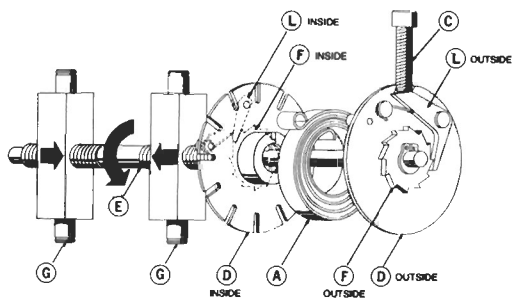
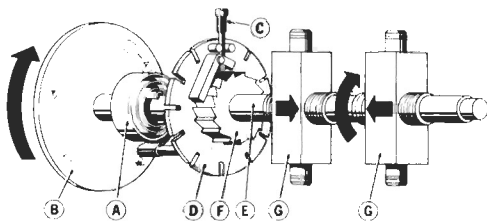

Figure 4 — Models 0 and 1/2
Figure 5 — Models 1 thru 5
There are two types of automatic chain tensioning devices used in the VARI-CHAIN transmission Figure 1. Figure 5 and Figure 4 illustrate the chain tensioning device found in VARI-CHAIN Models 1 thru 5 and Models 0 and 1/2 respectively. Although there are differences in the construction of the two tensioning devices, the principle of operation is the same.
- Remove blocking screw (C).
- Turn tension flange (D) in direction marked "D" as shown on control lever (H) to slacken chain. (Use screwdriver in slots of flange.)
- Refer to Figure 4 and 5. Turn tension flange (D) in direction marked "T" (clockwise rotation) until wheel faces are snug against the chain. For VARI-CHAIN Models 1 thru 5 continue clockwise rotation of the tension flange (using screwdriver in slots) until ratchet sounds cease indicating the automatic tension spring is fully loaded. Back off tension flange (D) to line up stops with blocking screw (C). For VARI-CHAIN Models 0 and 1/2, proceed by inserting blocking screw into the outside tension flange (D), thus blocking rotation of the outside tension flange (D) and releasing outside ratchet (L). Finally load spiral spring (A) by turning the inside tension flange (D) in a counter-clockwise direction until ratchet sounds cease. Rotate the transmission by hand during this setting.